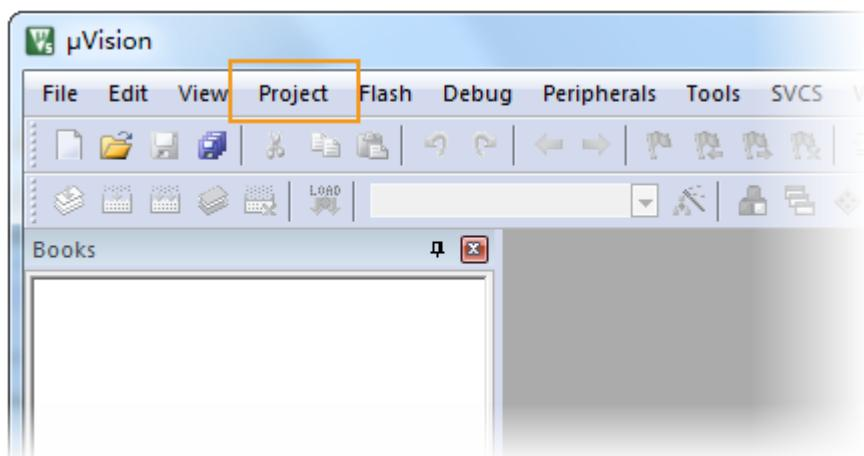
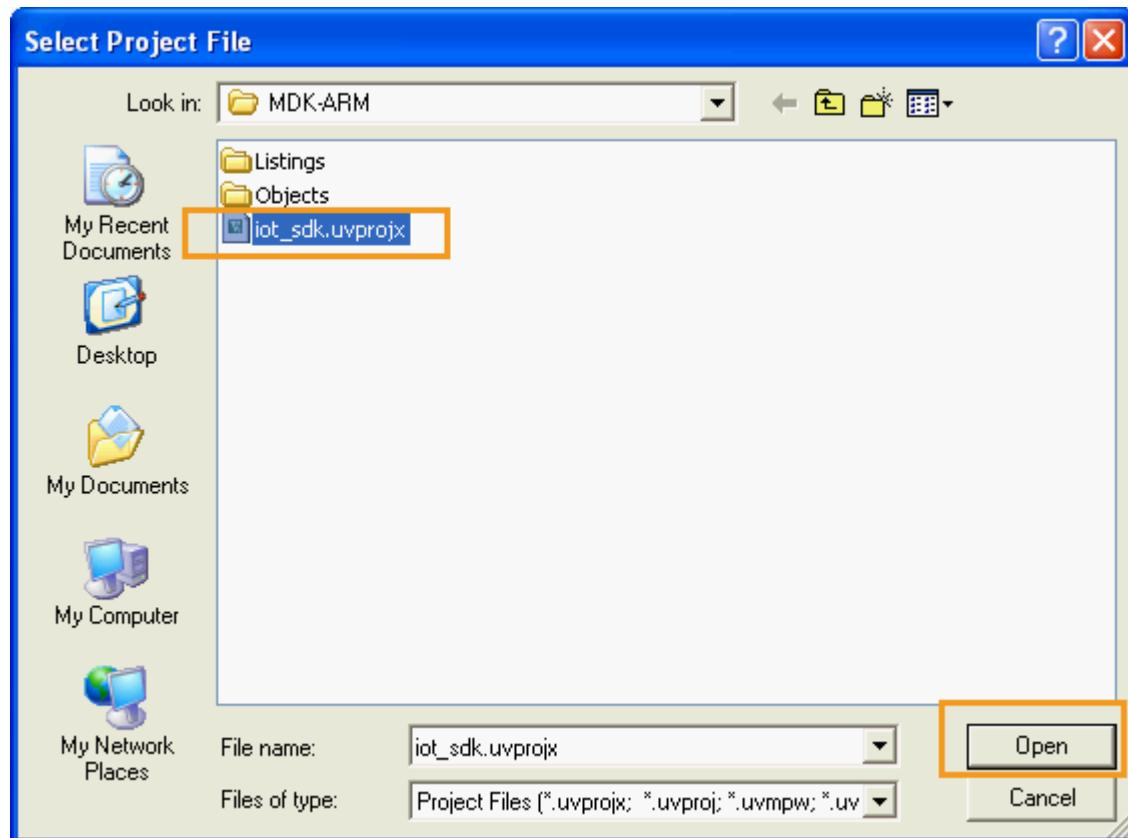

Figure 42. Importing the preconfigured project
Figure 43. Project file for Keil
- a) Navigate to **Project** (see Figure 42) in the µVision IDE's main menu, then **Open Project**. Click **Open** to import the project. The project file is named as <project>.uvprojx, such as the one shown in Figure 43.